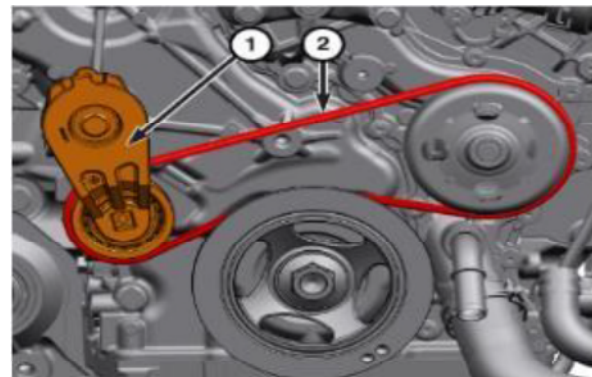

Figure 6 – Belt Tensioner
6. Rotate the belt tensioner (1) until it contacts its stop (Figure 6).